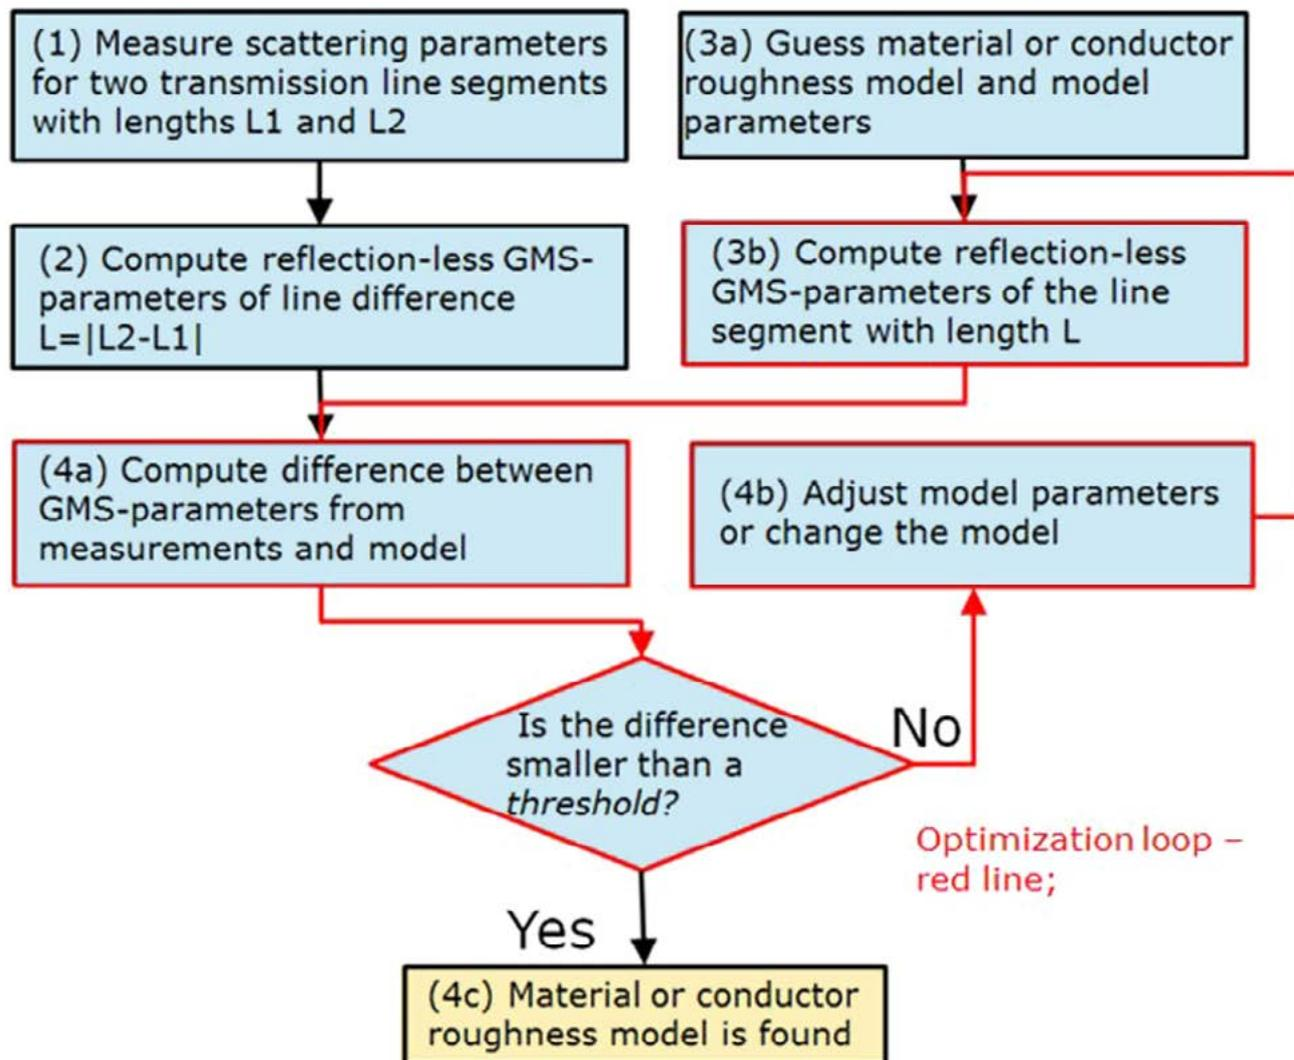

Figure 1: Identification procedure for dielectric material and conductor surface roughness model.
The basic procedure for the dielectric and conductors surface roughness models identification is illustrated in Figure 1 can be performed as follows:
This procedure can be implemented and automated in Simbeor software⁸, including the model parameters' optimization. The key in this approach is availability of algorithms for analysis of transmission lines that supports the frequency-continuous material models (Eq. 1-4) in step 3b of the algorithm shown in Figure 1.
1) Optimize dielectric model to fit measured and modeled GMS-parameters following the procedure in Figure 1 and do not use any additional conductor roughness model. The dielectric model will include effect of conductor surface roughness. Such model may be suitable for the analysis of a particular transmission line and has to be rebuilt if strip width or line type is changed. This combined model may be accept-
2) Define dielectric model with the data available from the dielectric manufacturer and then identify a roughness model (a roughness correction coefficient) with GMS-parameters following the procedure in Figure 1. This approach works well if a manufacturer has reliable procedure to identify the dielectric properties (most of them do). Wideband Debye models can be defined with just one value of dielectric constant and loss tangent specified at one fre-